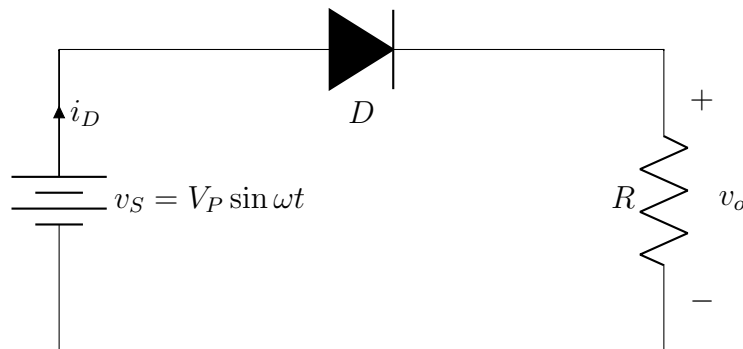

Figure 3: PN-Junction Diode Half-Wave Rectifier
1. Build a half-wave diode rectifier circuit using a Si 1N4148 diode, as shown in Figure 3. Use a 5 V_{pp} sinusoidal input waveform from the function generator. Use a resistor value of 1 kΩ at the output.